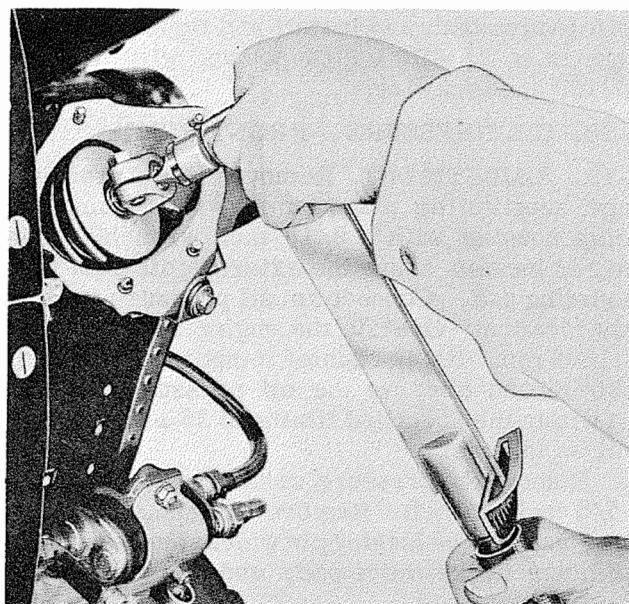

Figure 7-14. Making Torque Check on Adjusting Screw
d. Tighten the adjusting screw lock screw to 275 - 325 inch-pounds. Check the clamping action of the lock screw by using a torque wrench and screwdriver 805971 in the adjusting screw. See figure 7-14. If the adjusting screw turns when a torque of 350 inch-pounds is applied, reset the clearance to .010 inch and tighten the lock screw further. Do not exceed 325 inch-pounds.